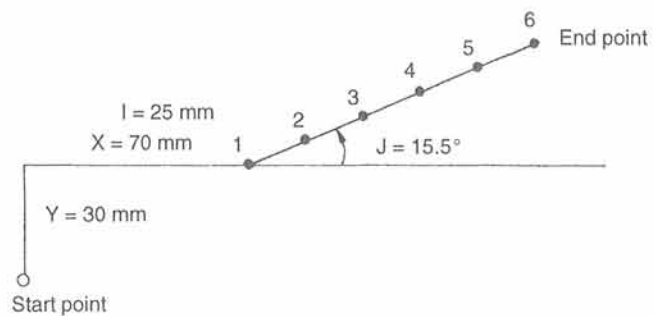

Fig. 4.15 Line-at-angle Command (G72)
- To execute a hole machining cycle using G70, G71, or G72, a canned cycle (G73, G74, G76, G77, G81 - G89) should be specified with “L = 0” in the preceding block as shown in the Example of Programming of Fig. 4.15. By the designation of “L = 0”, the hole machining position data are saved without executing the canned cycle.